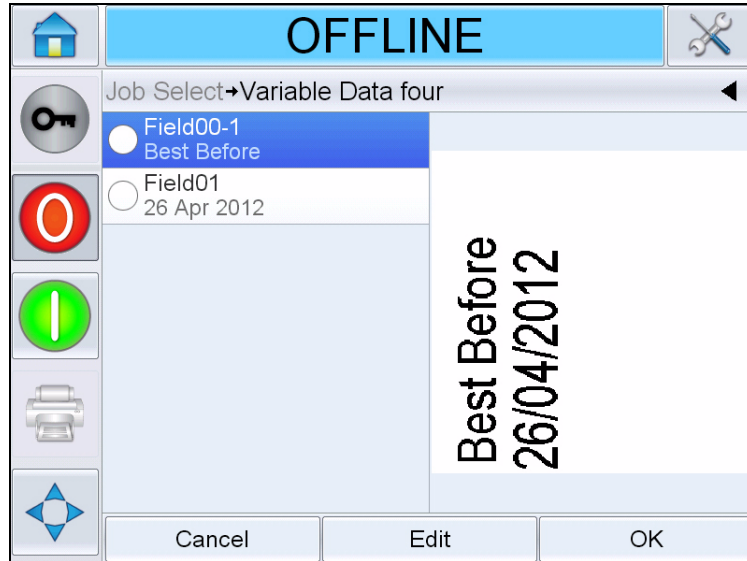

Figure 6-15: Default Data Window
- 2 Touch the required field from the list to select it (the first one in the list is automatically selected). The default data for that field appears in the preview window (Figure 6-15).